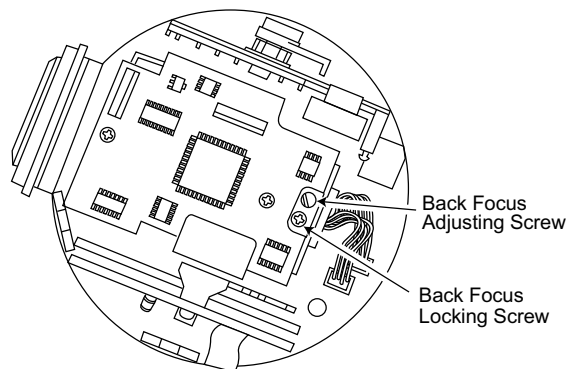

Fig. 4-2
- Referring to Fig. 4-2, loosen the Back Focus Locking Screw.
- Adjust the Back Focus Adjusting Screw by the flat head screwdriver for best focal point as shown in Fig. 4-2.